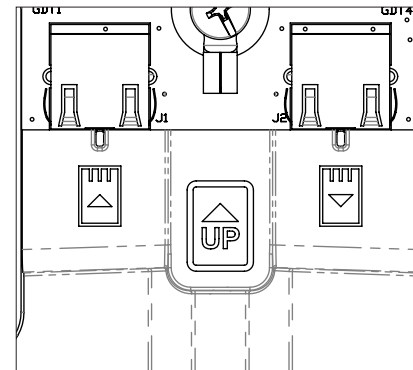

Figure 5 - Icon information
1. There are three icons visible when the unit is open (see Figure 5). The icon located in center denotes orientation of the unit.